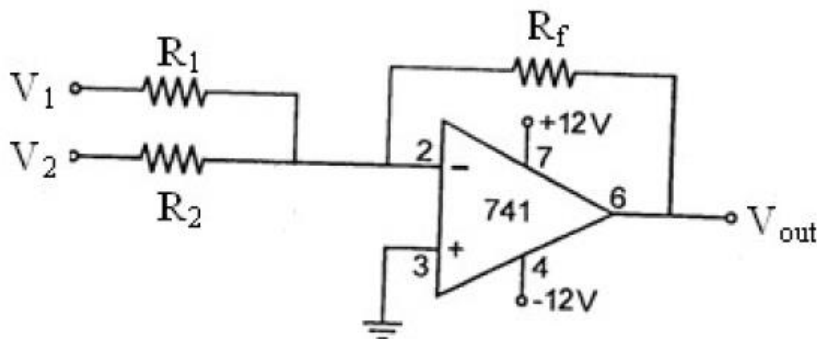

Fig.1.3. Op-Amp based adder circuit
Op-amp can be used to design a circuit whose output is the sum of several input signals. Such a circuit is called a summing amplifier or an adder. Summing amplifier can be classified as inverting & non-inverting summer depending on the input applied to inverting & non-inverting terminals respectively. An inverting summing amplifier with 2 inputs is shown in Fig. 1.3. The output will be amplified version of the sum of the two input voltages with 180° phase reversal.
11. Assemble the circuit on the bread board according to Fig. 1.3 choosing $R_F = 10k\Omega$ and $R_1 = R_2 = 1k\Omega$.